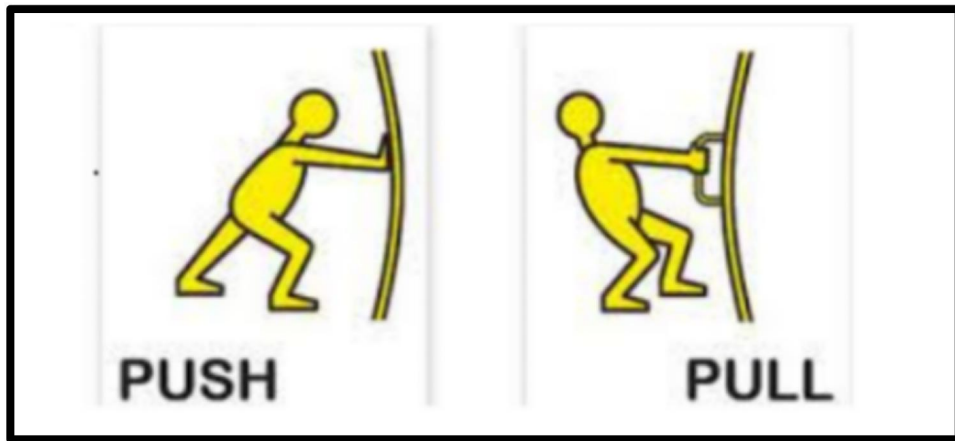

Figure 2.1 Pushes and pulls of forces is a vector quantity
- Force also known as a push or a pull action is a **vector quantity** which has both magnitude and direction as shown in **Figure 2.1**.